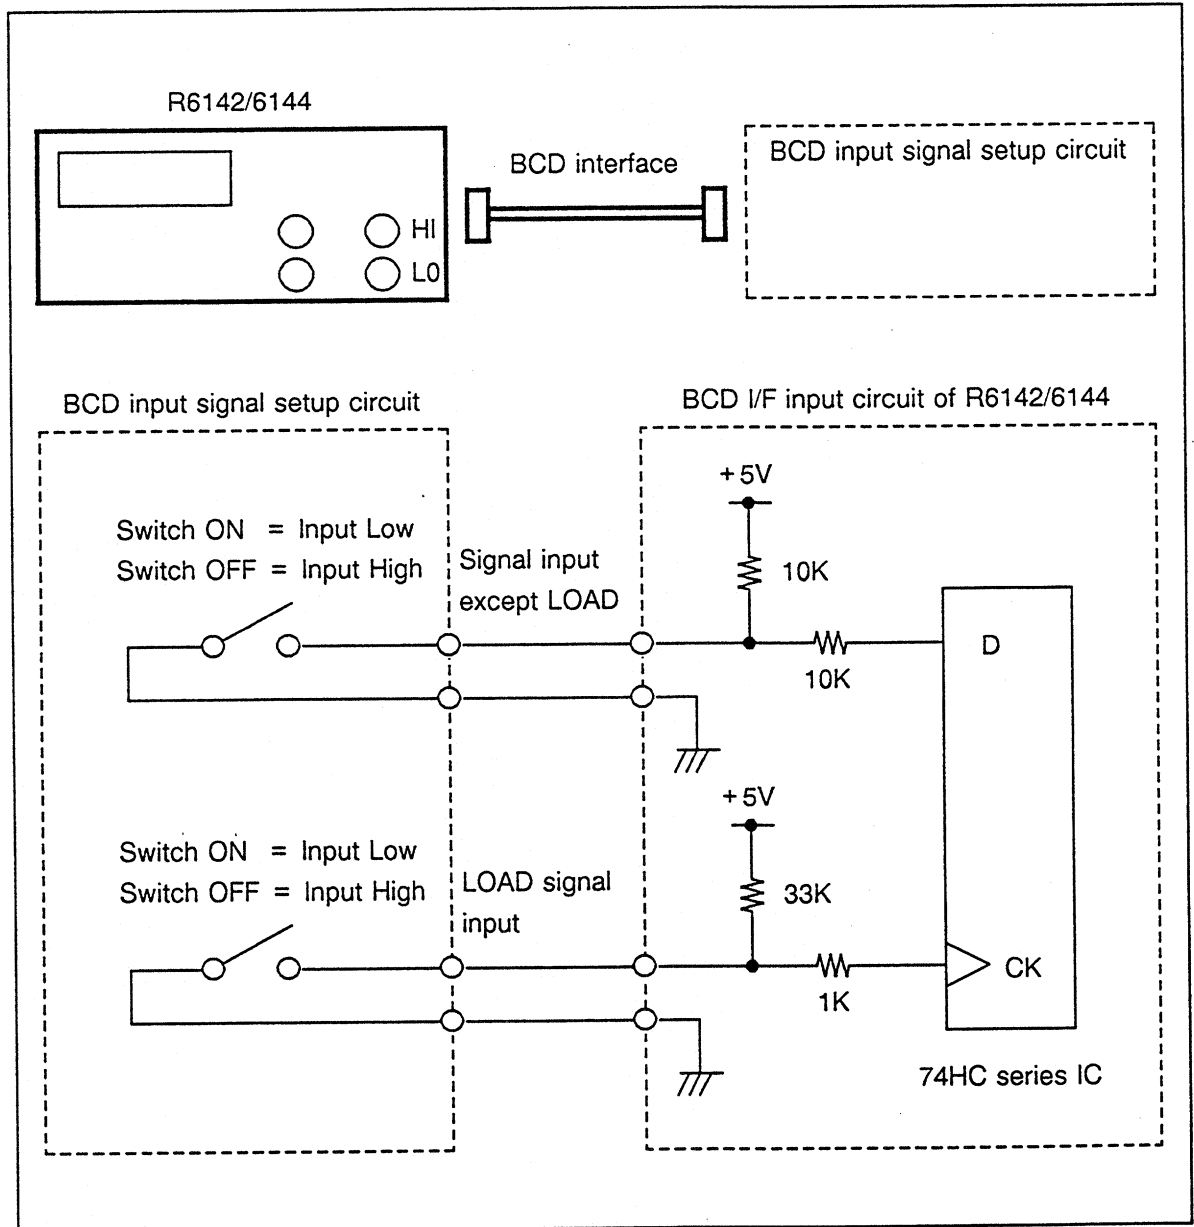

Figure 4-10 Cable Connection for BCD Interface Test
- ① Connect the R6142/6144 to the BCD input signal setup circuit as shown in Figure 4-10.
- ③ Change the setup of each BCD signal by following the instructions given in Figure 4-10 and Table 4-21, and make sure that the system operates normally.
- ④ Make sure that the R6142/6144 does not operate when the LOAD signal is set to logical high and the output signal level is changed.
- ⑤ If the R6142/6144 operates abnormally, go to Section 6.11 "Problems in BCD Interface".